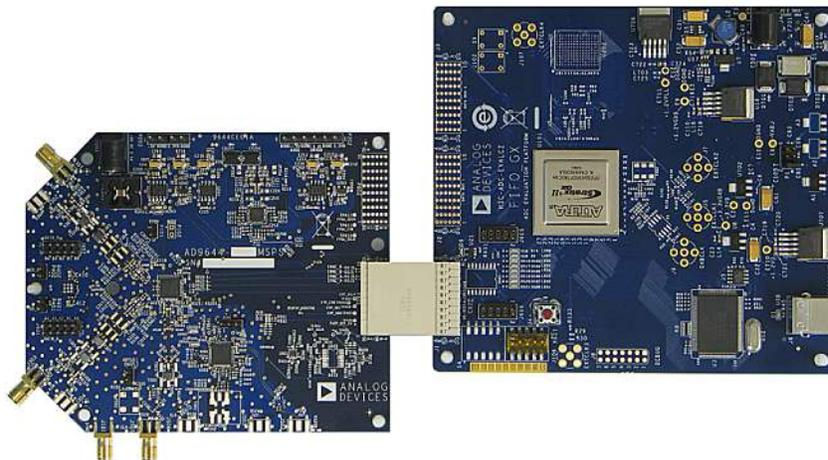
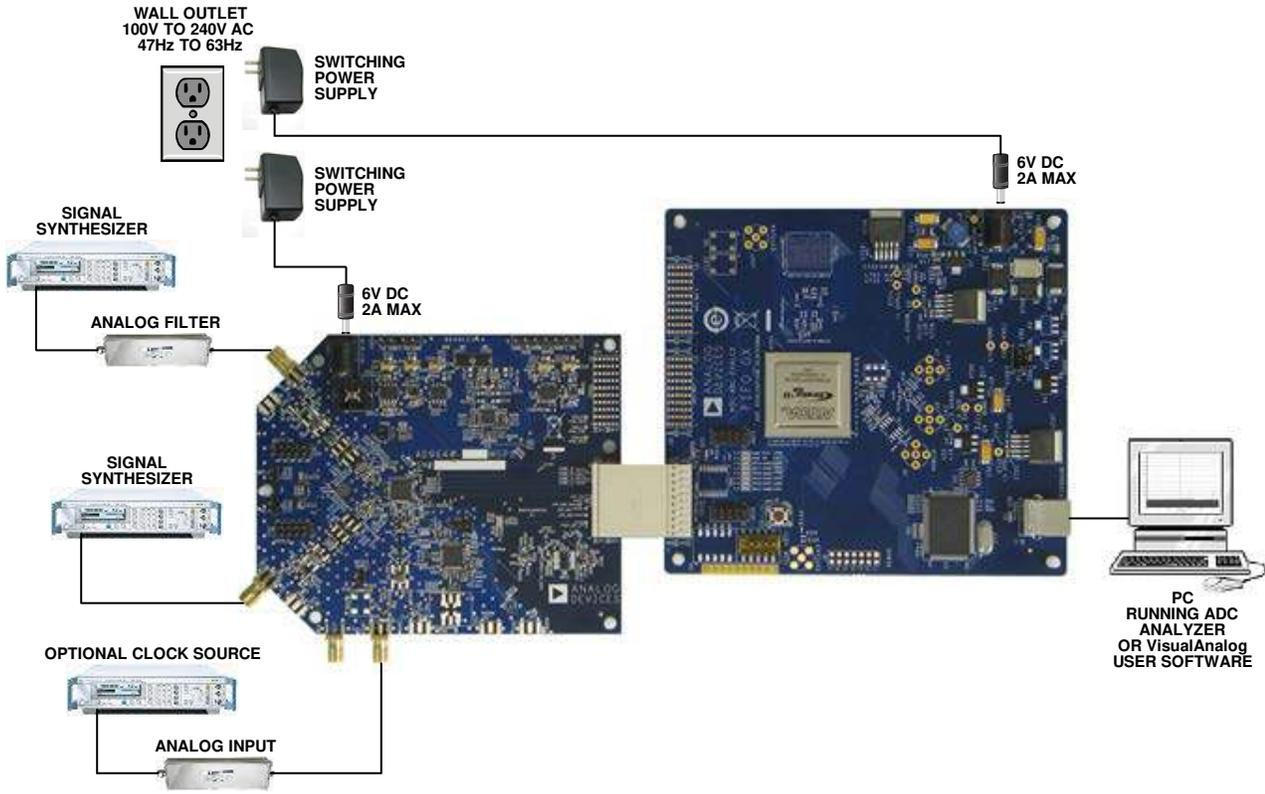

Figure 1. AD9644/AD9641 Evaluation Board and FIFO-GX Data Capture Board
Figure 2. AD9644/AD9641 Evaluation Board Connection
The AD9644 and AD9641 evaluation boards provide all of the support circuitry required to operate the parts in various modes and configurations. Figure 2 shows the typical bench characterization setup used to evaluate the ac performance of the AD9644 or AD9641. It is critical that the signal sources used for the analog input and clock have very low phase noise (<1 ps rms jitter) to realize the optimum performance of the signal chain. Proper filtering of the analog input signal to remove harmonics and lower the integrated or broadband noise at the input is necessary to achieve the specified noise performance. The AD9644 evaluation board supports dual-channel operation for the AD9644. The AD9641 evaluation board supports single-channel operation for the AD9641.
1. Connect the AD9644 or AD9641 evaluation board to the FIFO-GX data capture board, as shown in Figure 1 and Figure 2.